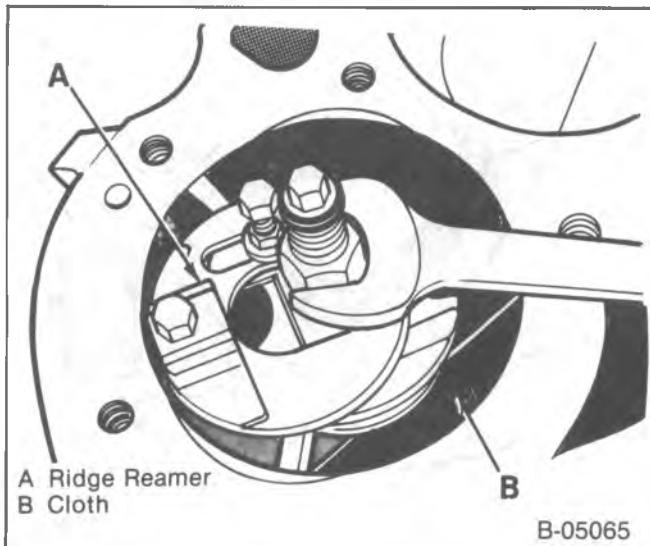

Figure 20—Removing the Cylinder Ridge
Remove or Disconnect (Figures 20 and 21)
- Using the manufacturer's directions, install a ridge reamer into the top of the cylinder (figure 20). Perform the cutting operation.